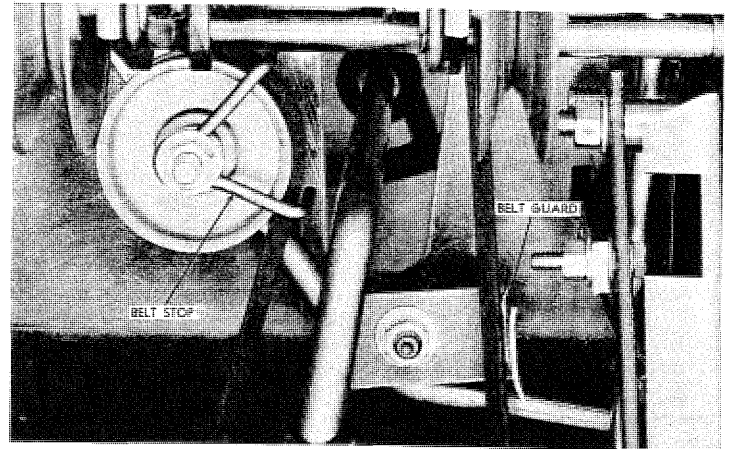

FIGURE 10
- Loosen the nut on the idler pulley (2, Figure 9) until the belt stop is free to move. See Figure 10 for enlarged view.
- Adjust the idler pulley belt stops so they just clear the belt as it contacts and leaves the pulley. Tighten the pulley nut securely. See Figure 10. Check the belt guard bracket (3, Figure 9) to see that it just clears the belt and is parallel with it as shown in Figure 10. Adjust, if necessary.